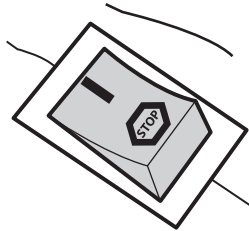

Fig. 21a
2. Set the ignition switch (A19) to its on position "I". (See Fig. 21a)